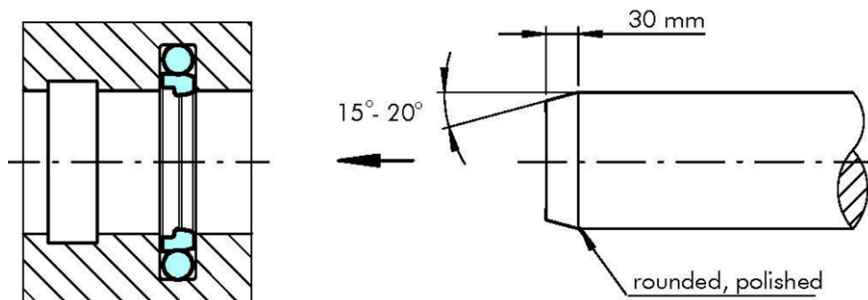

Fig 16.16 Calibration of the installed seal
- Finally size the seal ring using a mandrel (see Fig 16.16) which should have a chamfer of 10° to 15° over a length of approx. 30 mm.